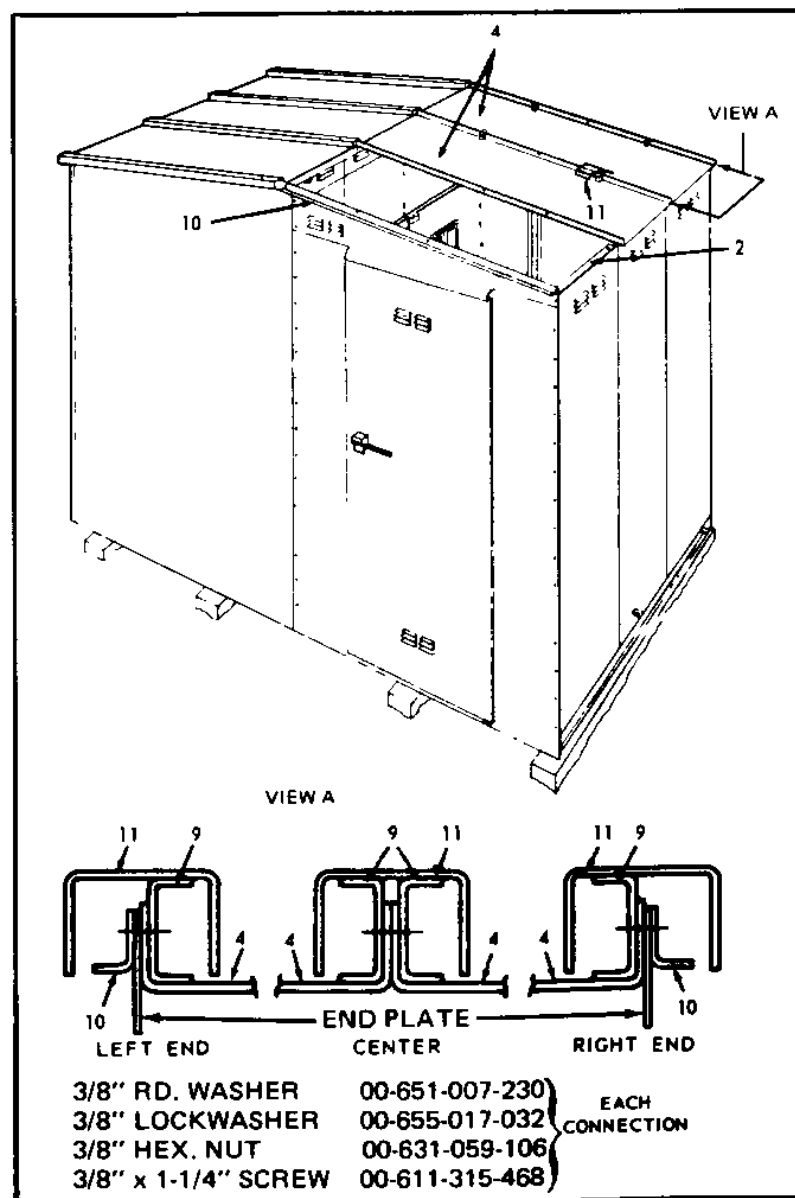

Figure 28. Roof Covers Installation - Single Aisle Layout
8. See Figure 28. Put all roof covers (4) in place and bolt to aisle wall assembly (2) and roof support.
9. Fasten roof covers together using bracket (9) at positions "E" (two per joint) See view "A".
10. Install a trim angle (10) at each end of aisle.